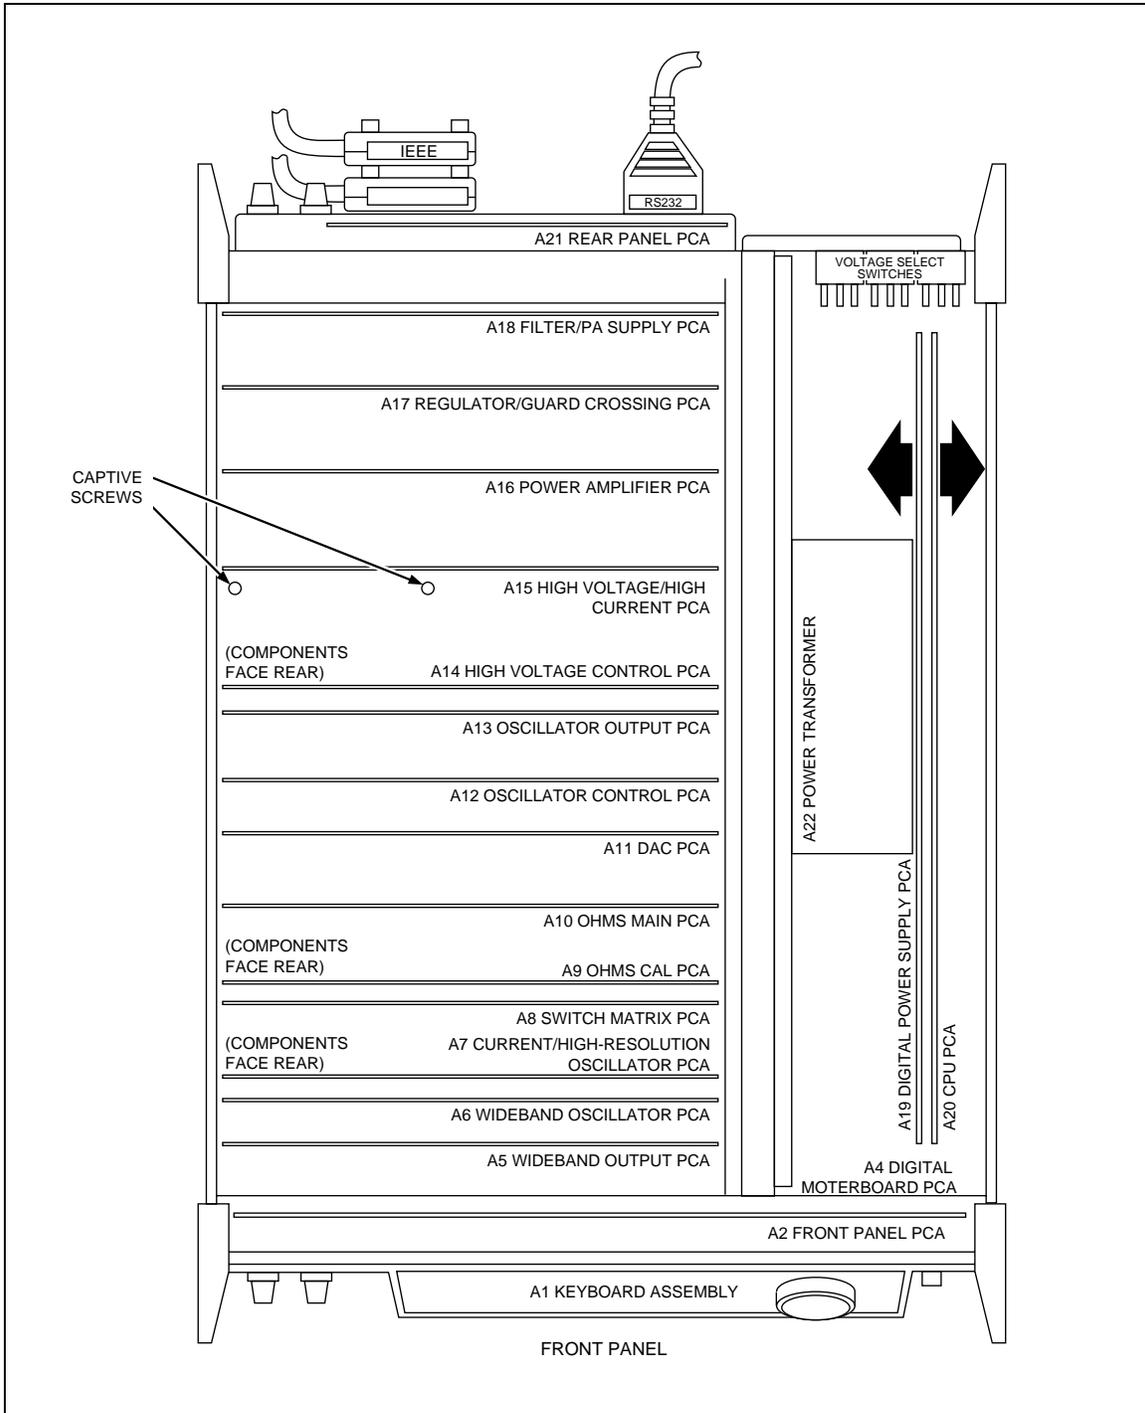

Figure 4-5. Analog and Digital Assemblies
The analog assemblies are installed in the sequence shown in Figure 4-5. Note that each module cannot be positioned in any other slot and that identifying information on the tab for each module faces forward. In most cases, the component side of each module also faces forward. The component side faces to the rear for three modules: Current/High Resolution Oscillator (A7), Ohms Cal (A9), and High Voltage Control (A14). All modules except the High Voltage Control pull straight up to disengage from the Digital Motherboard. For the High Voltage Control module, two Phillips head captive screws at the outer corners of the High Voltage Transformer must be removed before the module can be removed.
Remove the CPU Assembly or the Digital Power Supply Assembly by pulling straight up at the top corners of the assembly. In relation to the chassis side, the CPU Assembly components face toward, and the Digital Power Supply Assembly components face away. See Figure 4-5.
2. Referring to Figure 4-5, locate the slots for the Wideband Output Module (A5) and the Wideband Oscillator Module (A6).